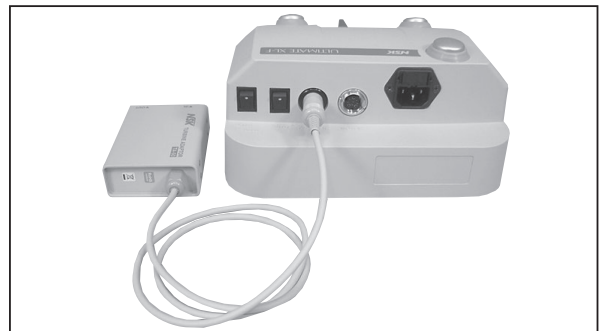

Fig. 3
(3) Mounting of the Air Turbine (option)
Insert the plug of the ③ Turbine Adapter into the ⑫ Turbine Adapter Connector at the back of the unit. (Fig. 3)